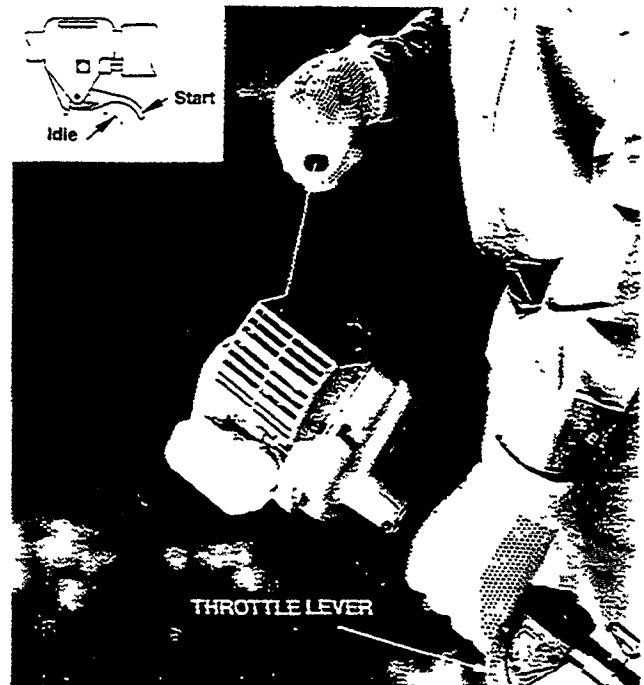

Figure 19
- Lock throttle lever in the start position as shown in (Figure 19).
- Pull starter rope slowly until engine compression is felt (Figure 19). Pull the starter in short rapid strokes until engine starts.